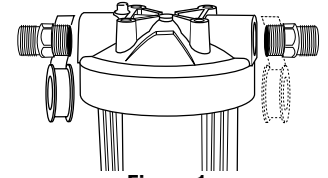

Figure 1
3. Wrap PTFE tape around the 1" male compression adaptors (to the right, see Figure 1) and install into filter head. **Do not use pipe solvent (dope) as some types may cause damage to plastic fittings. Do not overtighten as it may cause damage to filter head. Damage to unit may result in property damage due to water leakage.**